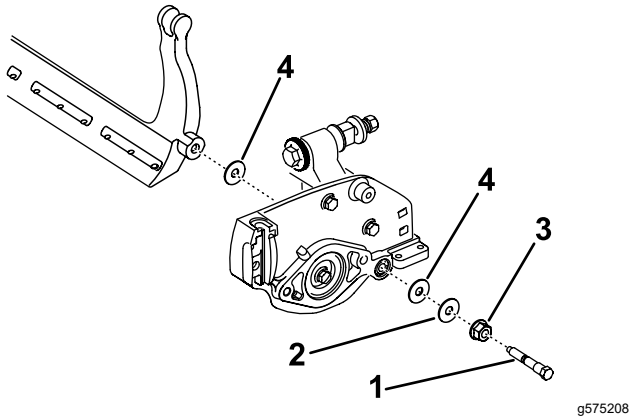

Figure 19
Account for the 2 nylon washers and 1 steel washer on each end of the bedbar (Figure 19).
3. Position a nylon washer on each side of the side-plate boss. Place a steel washer outside each of the nylon washers (Figure 19).